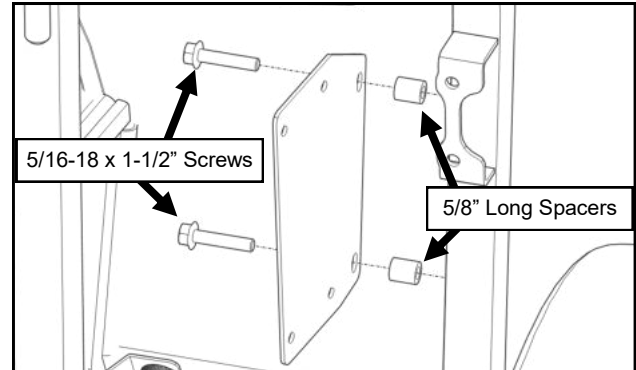

Fig. 1.1 (Install Heater Bracket to A-Pillar)
- 1.1 Remove hardware already in place and attach the heater bracket to the right A-Pillar with it. See Figure 1.1. Tighten hardware.